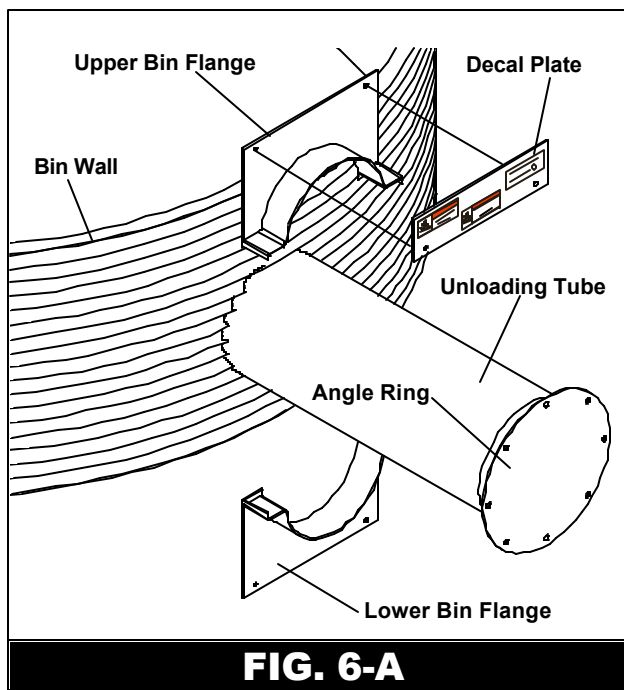

FIG. 6-A
- A. Attach the upper & lower bin flanges to the auger tube using 5/16" x 1-1/2" bolts and nuts. (See fig. 6-A)
- C. Fasten the four corners of the bin flange to the bin by first drilling holes for 5/16" x 1" bolts in the bin wall through existing holes in the flange. Attach the decal plate to the upper flange while attaching flange to bin. (See fig. 6-A)